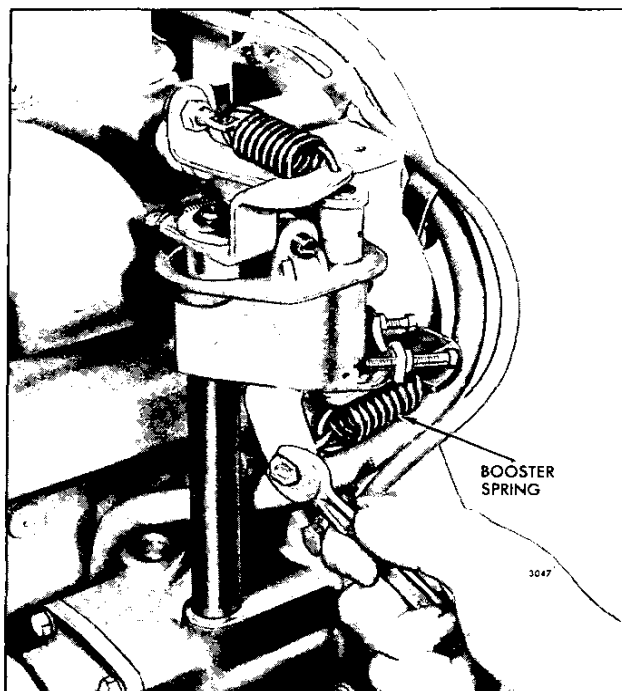

Fig. 8 – Adjusting Booster Spring
2. Reduce the tension on the booster spring, if not previously reduced, to the minimum by backing off the outer locknut (Fig. 8) until the end of the booster spring eyebolt is flush with the end of the nut.